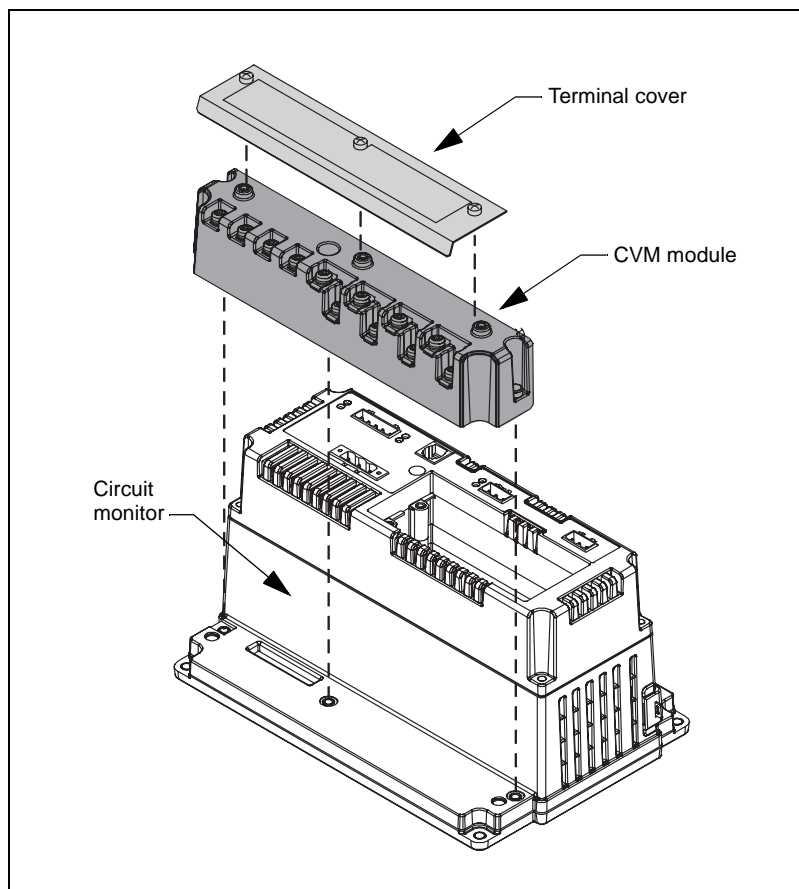

Figure 1: Removing and installing the module
To remove and reinstall the module, follow these instructions and refer to Figure 1 on the back of this sheet.
- a. Disconnect the metered voltage by removing the fuses from the potential transformer (PT) or from the voltage disconnect.
- b. Short circuit the current transformer (CT) secondaries to disconnect the metered current.
6. Pull the module straight up until it disengages from the circuit monitor, as shown in Figure 1.